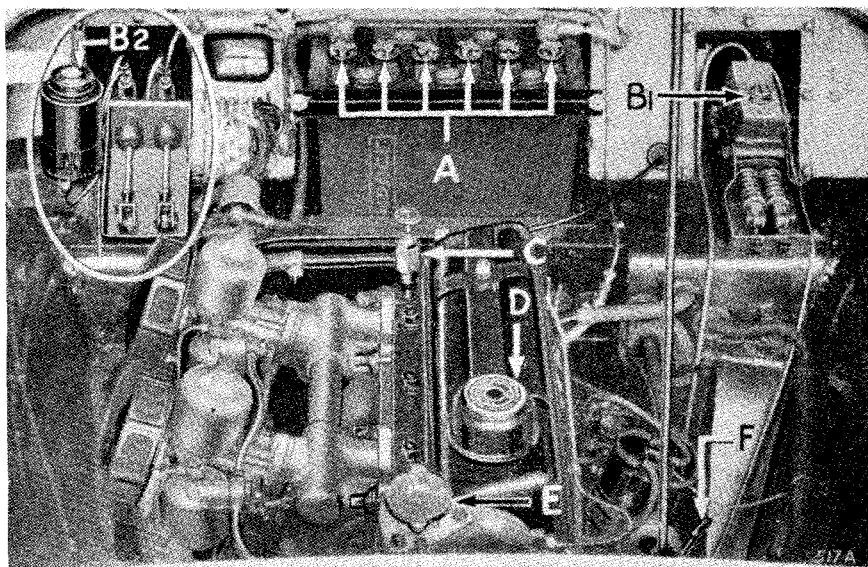

Fig. 3. View under bonnet.
Every 250 miles (400 km.) the oil level should be checked when the engine is cold, and topped up if necessary. Withdraw dipstick ((F) Fig. 3) and wipe clean, then insert and push fully home before withdrawing for reading. Should the level be at the lower mark on the dipstick, 4 pints (2.2 litres) of oil will be required for topping up. The regular addition of oil not only maintains the correct level, but also tends to keep up the quality of the lubricant. Replenishment is via the cap (D) which does NOT require unscrewing but may be lifted straight off.
For the purpose of draining, taps are provided in the bottom tank of the radiator and at the rear of the cylinder block on the right-hand side. As the cooling system is pressurised it will be necessary, when draining, to remove the radiator cap (E), Fig. 3.
It is important that the filler cap on the combined hydraulic fluid reservoir, integral with the master cylinders (see arrow **B1 or B2** Fig. 3, page 11), should be removed every 6,000 miles (10,000 km.), the fluid level checked and topped up if necessary. The reservoir should be filled to within one inch (2.5 cm.) of the top, and never less than half full (see page 51 or 52 for the correct fluid).